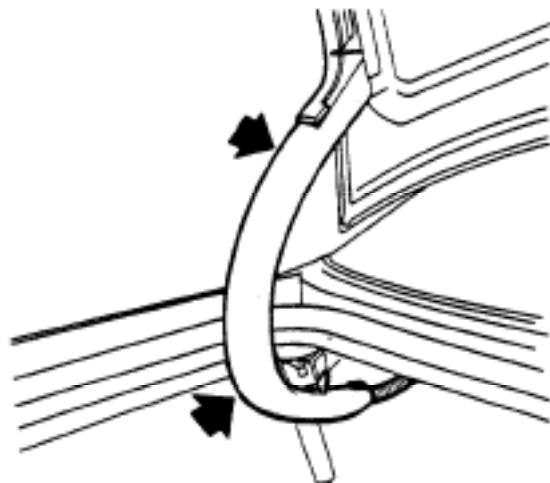

Figure 11. Clipping conduit to hinge
11. Clip the cable conduit to the hinge and re-run the wiring (see Figure 11).